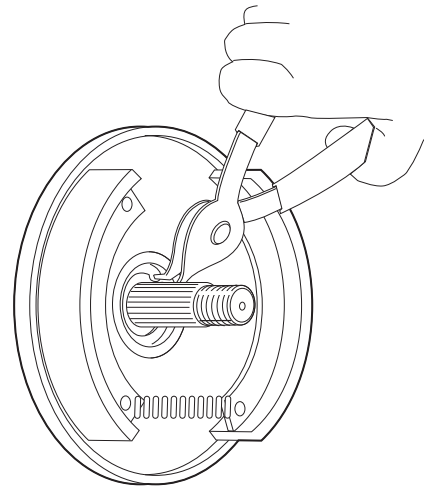

Fig. 3 Removing/Installing Outer Snap Ring
2. Remove the outer snap ring from the axle tube (Ref. Fig. 3).